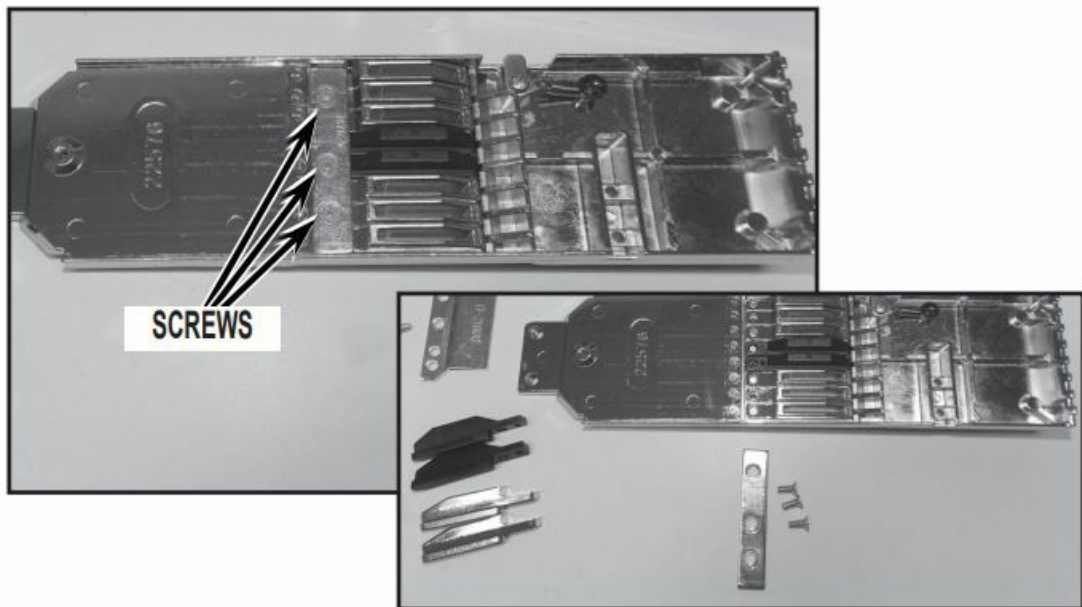

FIGURE 7
7. Turn slide tray over and remove three screws from active insert retainer. See Figure 7.